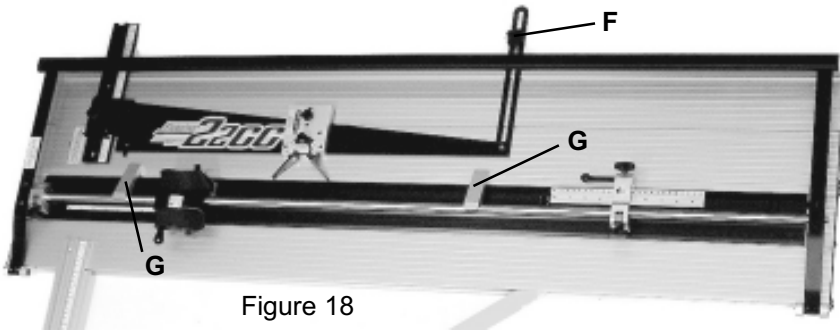

Figure 18
4. If the two cuts are not in line, the **Mat Guide** must be squared as follows: Loosen the left-hand (**C**) and right-hand (**D**) screws on the **Mat Guide Slide (E)**. Loosen both the **Lower Locking Knob (B)** and **Upper Locking Knobs (F)**. Place the two **Squaring Fixtures (G)** (from the parts bag) on the steel **Shaft**, one near the bottom end of the **Mat Guide** and the other near the top, as in Figure 18. Remove the **Locator Pin (A)** and use your left hand to slide the **Mat Guide** firmly against both **Squaring Fixtures**. While keeping pressure against the **Squaring Fixtures** tighten the **Lower Locking Knob (B)** then the left hand screw (**C**), followed by the right hand screw (**D**) on the **Mat Guide Slide (E)**. Be sure to leave the **Upper Locking Knob (F)** loose during this adjustment. Retest for squareness as in item 3 above.